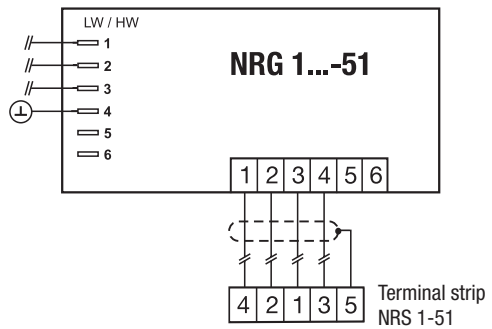

Fig. 20 Wiring of level electrode with aluminium terminal box
4. Connect terminal strip according to the wiring diagram. **Fig. 20**